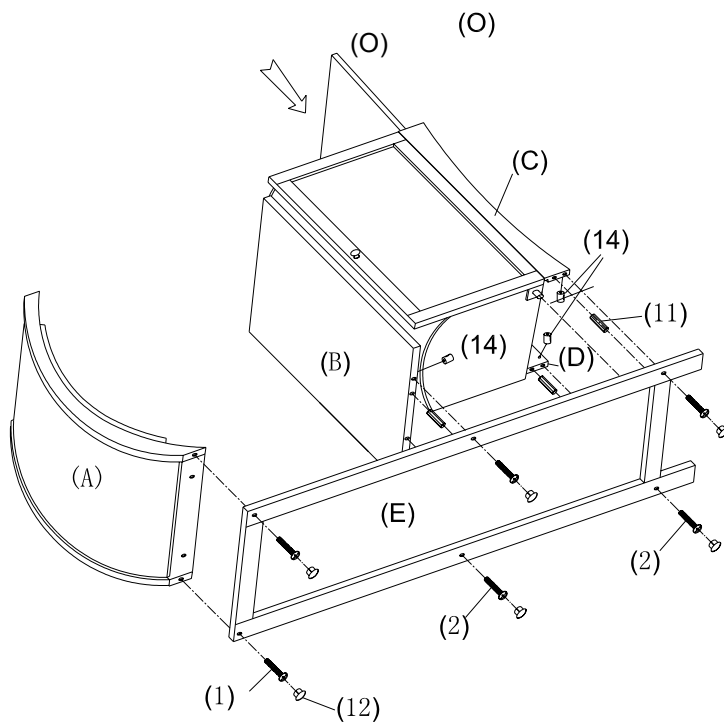

FIGURE 2
4. INSERT WOOD DOWELS (11) INTO PREDRILLED HOLES ON ENDS OF FIXED SHELF (B), FRONT AND BACK CROSS BRACE (C, D) AND FIT INTO CORRESPONDING HOLES ON INSIDE OF LEFT SIDE PANEL (E). INSERT T-BOLTS (14) INTO PREDRILLED HOLES ON UNDERSIDE OF FIXED SHELF (B), FRONT AND BACK CROSS BRACE (C, D). INSERT LARGE MACHINE SCREWS ($\text{\O}1/4''\times1-1/2''$) (2) THROUGH PREDRILLED HOLES ON OUTSIDE OF LEFT SIDE PANEL (E) AND TIGHTEN INTO T-BOLTS (14). PLEASE NOTE THAT IF SCREWS DO NOT TIGHTEN, ROTATE T-BOLTS (14) SO THAT THE THREADS OF T-BOLTS (14) ARE FACING SCREWS. TIGHTEN MEDIUM MACHINE SCREWS ($\text{\O}1/4''\times1''$) (1) THROUGH PREDRILLED HOLES ON OUTSIDE OF LEFT SIDE PANEL (E) INTO CORRESPONDING HOLES ON END OF TOP PANEL (A). PUSH PLASTIC PLUGS (12) INTO HOLES ON OUTSIDE OF LEFT SIDE PANEL (E) (AS SHOWN IN FIGURE 2)
5. SLIDE BOTTOM PANEL (O) INTO THE GROOVES ON FRONT AND BACK CROSS BRACE (C, D) AND ALIGN WITH LEFT SIDE PANEL (E). PLACE ASSEMBLED HAMPER CABINET INTO THE SPACE OF BETWEEN OF FIXED SHELF (B) AND FRONT AND BACK CROSS BRACE (C, D), FIT THE METAL TAGS OF HAMPER CABINET INTO PREDRILLED HOLES ON INSIDE OF LEFT SIDE PANEL (E). (AS SHOWN IN FIGURE 2)